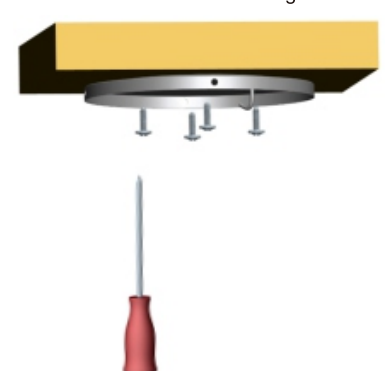

Fig 2.1
2.1 Option 1: Fasten the mounting plate with the wood setscrews (included) when securing to the wooden ceiling beam or support structure with approved electrical outlet box as shown in Fig 2.1.